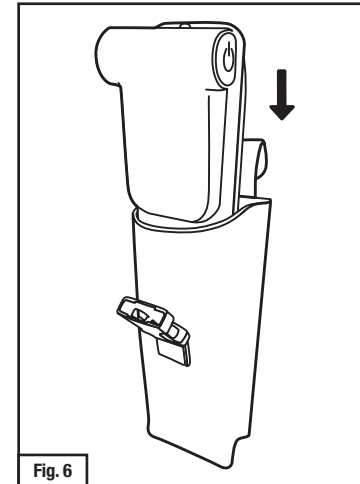

Fig. 6
5. The heavy duty holster can be worn on either side of the waist belt. If choosing to wear the battery and holster on **right** side of waist belt, slide the TR-659 adapter with battery into the TR-656 heavy duty holster with battery side facing belt loop (back) of the holster (Fig. 6).